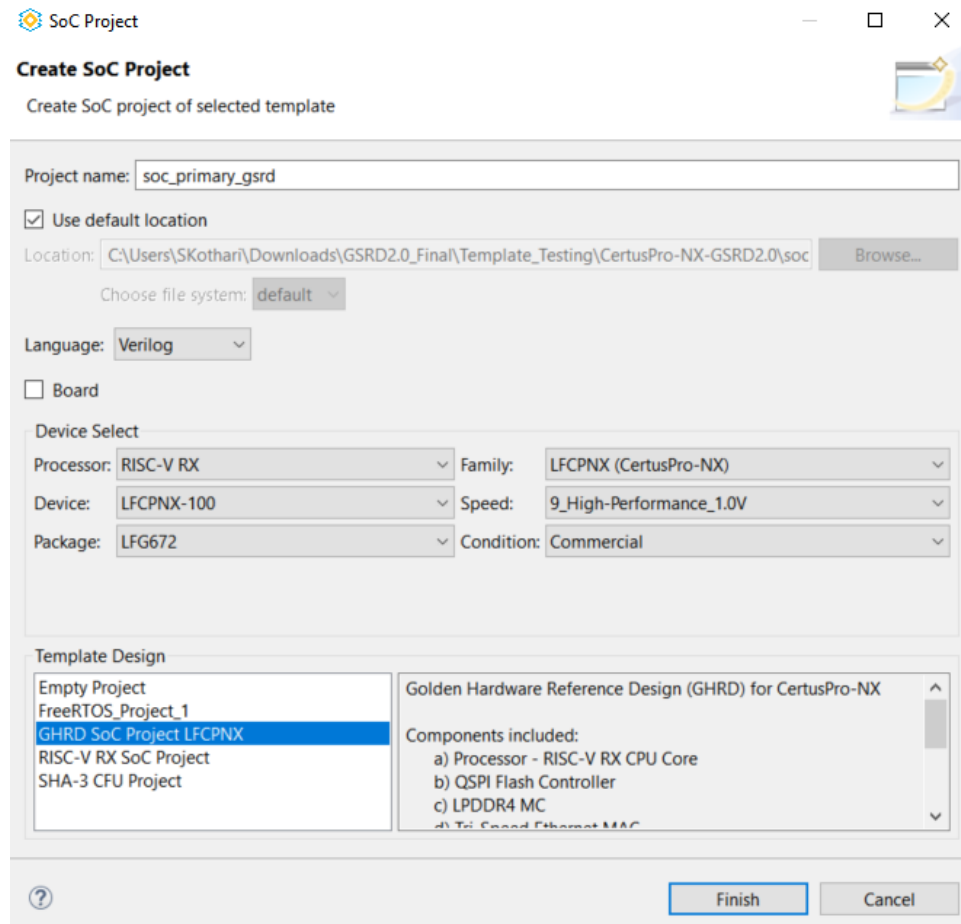

Figure 8.4. SoC Project Window
5. On the SoC Project window, provide name for your SoC project. Choose Processor as **RISC-V RX**, Family as **LFCPNX**, Device as **LFCPNX-100**, Package as **LFG672**, and choose the GHRD SoC Project LFCPNX from Template Design as shown in Figure 8.4. Since you can make your own desired modifications to this project, the project name is called as **soc_primary_gsrld**.